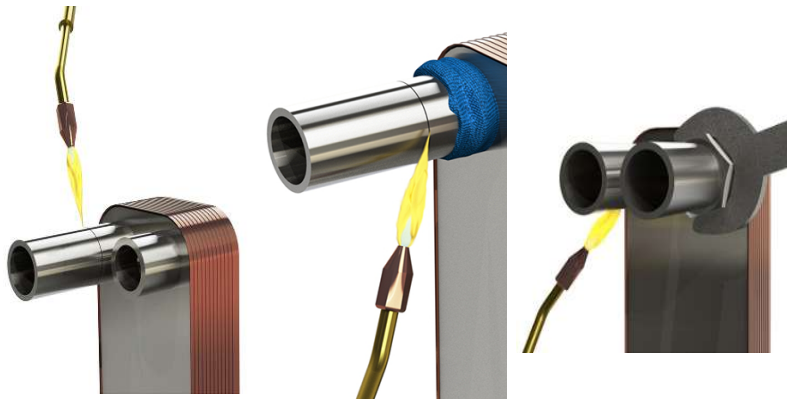

Fig. 10: Brazed connections
1. Use a wet cloth (see ▶Fig. 10, p. 26). The cloth serves to absorb heat and prevent excess heat from entering the product and melting the copper.